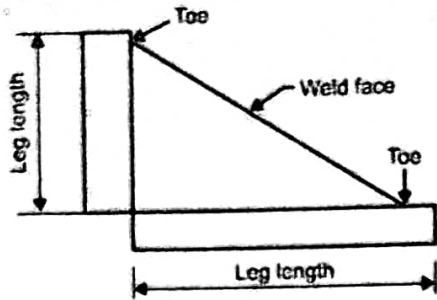

Fig. 5.47. Leg length
**Leg Length :** It is the length of the fusion face in a fillet weld. (Fig. 5.47).